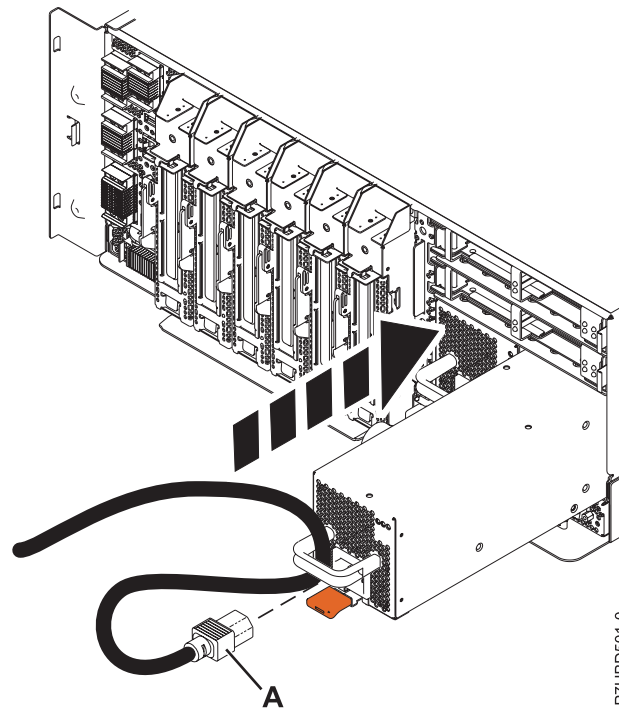

Figure 5. Replacing the power supply
4. Align the power supply with the power supply bay and slide the power supply into the system until it locks into place, as shown in Figure 5.
5. Attach the power cable (A), as shown in Figure 5.